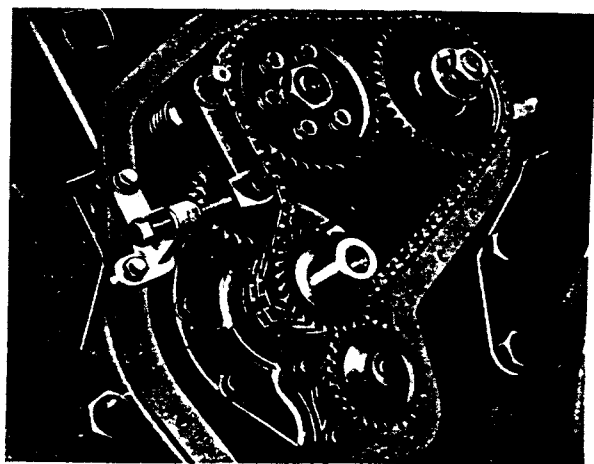

FIG. 133.
5. Set valvetiming, see page C118, refitting camshaft chainwheel and timing chain and tension chain using Service Tool FT.84A. Fig. 133.
jockey chainwheel carrier as shown in Fig. 133. Tighten adjusting screw finger tight to take up the slackness in the chain.
12. Fit chain tensioner FT.84A, using appropriate timing cover set screw holes so that the adjusting screw bears at right angles against the pad of the jockey chainwheel carrier as shown in Fig. 133. Tighten adjusting screw finger tight to take up the slackness in the chain.